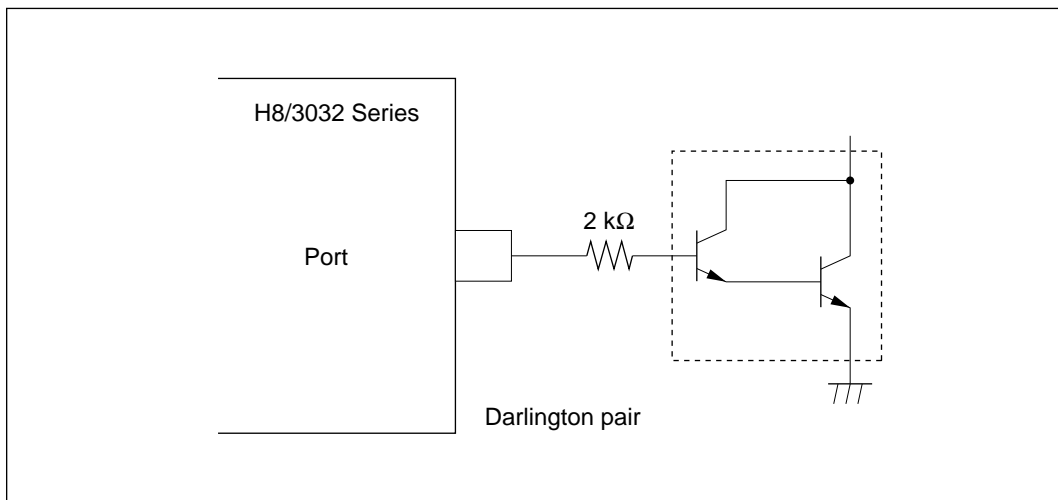

Figure 17-1 Darlington Pair Drive Circuit (Example)
2. When driving a darlington pair or LED, always insert a current-limiting resistor in the output line, as shown in figures 17-1 and 17-2.